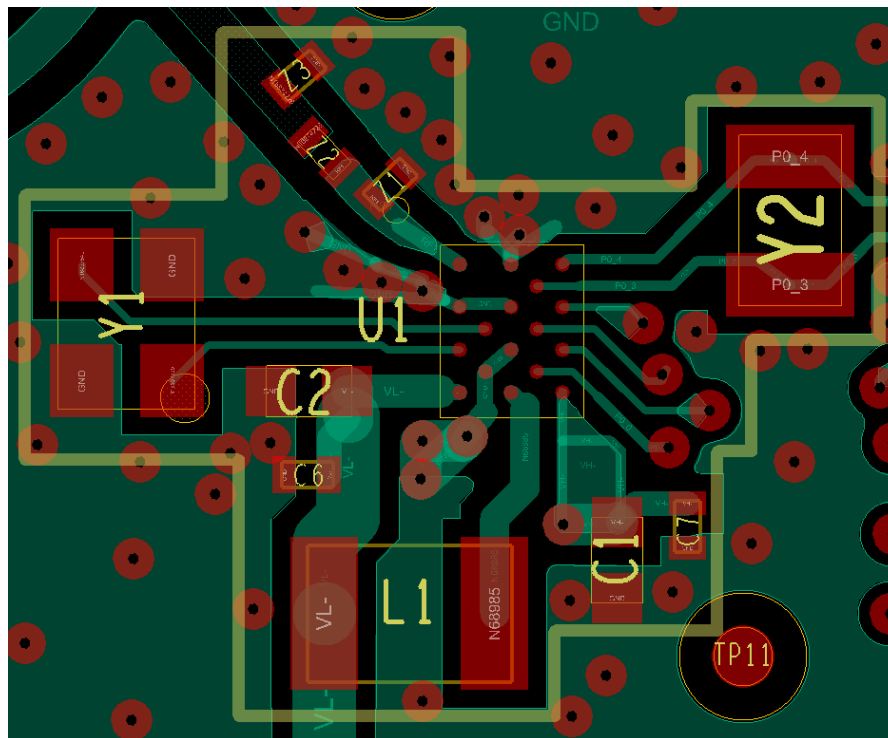

Figure 33: WLCSP17 - PCB Placement and Routing – Top Layer
- Connect pin A3 to GND with a via as shown in Figure 33
- Short C1, C3, and E3 pins together and use two or more GND vias, as shown in Figure 33
RF strip: calculate and route a 50 Ohm RF stripline between the DA14531 RFIOp pin and the antenna. A low-pass filter that consists of three components (Z1, Z2, Z3) must be put as close as possible to the chip. Both capacitors must be grounded on the same side of the RF stripline. See Figure 33.